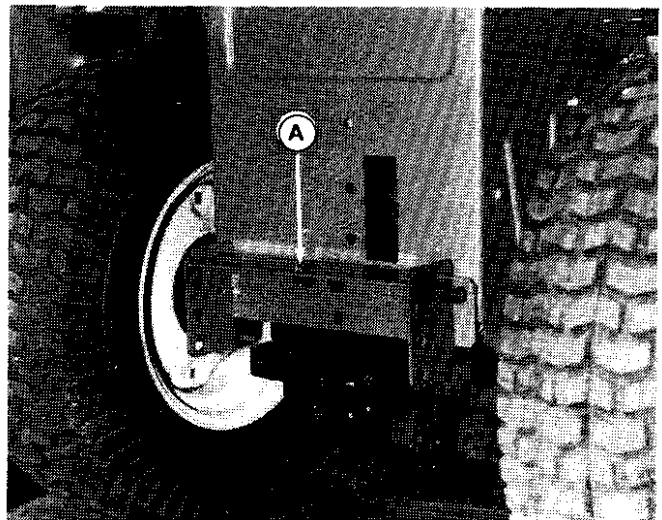

Figure 19.
1. Install the bracket to the back plate as shown in figure 19, using three 3/8-16 x 1 hex bolts and locknuts. In the top, center hole (A) install a 3/8 x 3/4 bolt and 3/8 locknut to prevent bracket being used as a **drawbar**.
2. Install the decal, part number 1700346 (see first page) to top of bracket beside hole (A, figure 19).